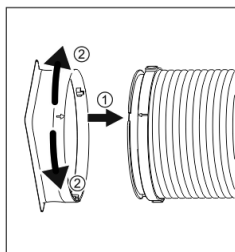

Fig. 1
1.Align the both arrow of hose inlet connector and hose, insert; (Fig. 1)
2.Rotary the hose inlet connector Clockwise or counterclockwise about 60°; (Fig. 1)